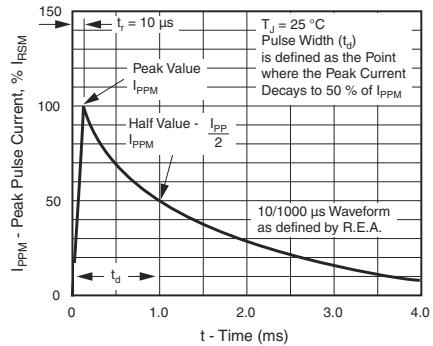
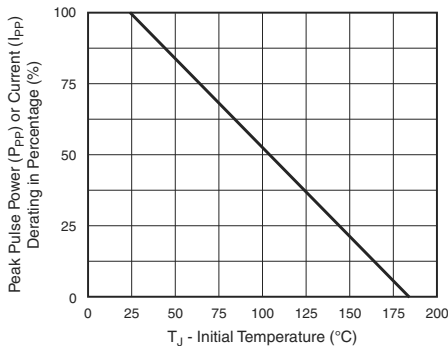

Figure 3. Pulse Waveform
Figure 2. Pulse Power or Current vs. Initial Junction Temperature
(1) Pulse test:  $t_p \leq 50$  ms
(2) Surge current waveform per fig. 3 and derated per fig. 2
(3) All terms and symbols are consistent with ANSI/IEEE C62.35